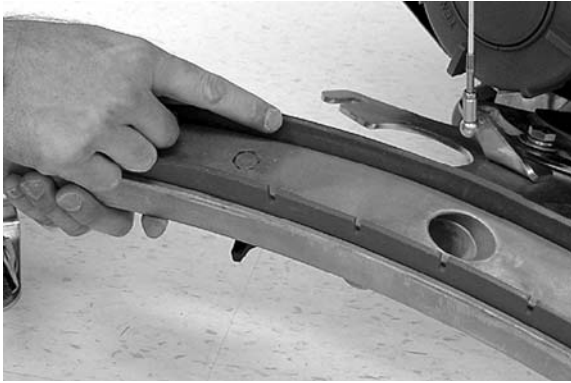

FIG. 44
7. Check the condition of the squeegee blade wiping edge (Figure 44). Rotate blade if worn. (See SQUEEGEE BLADE REPLACEMENT)